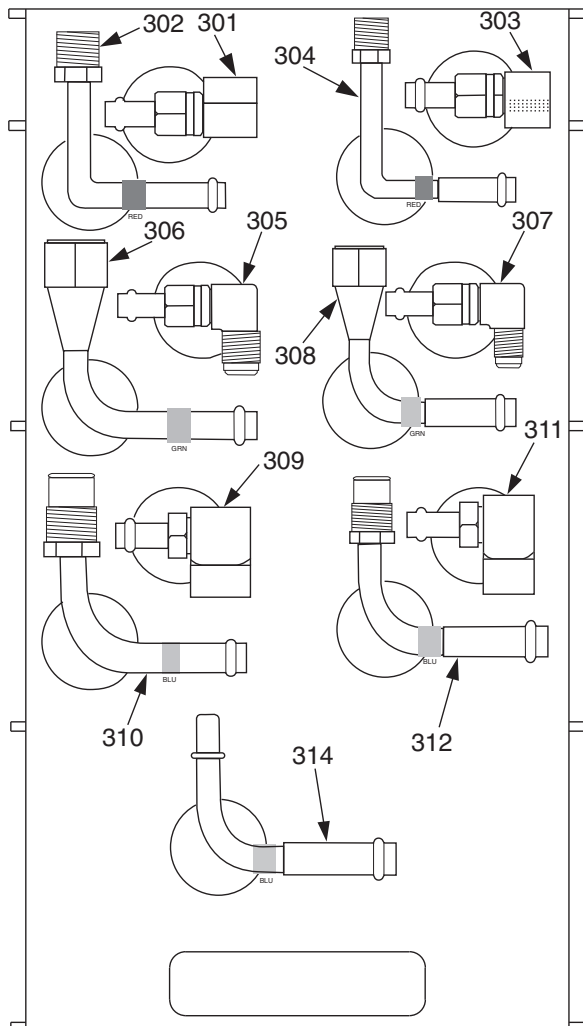
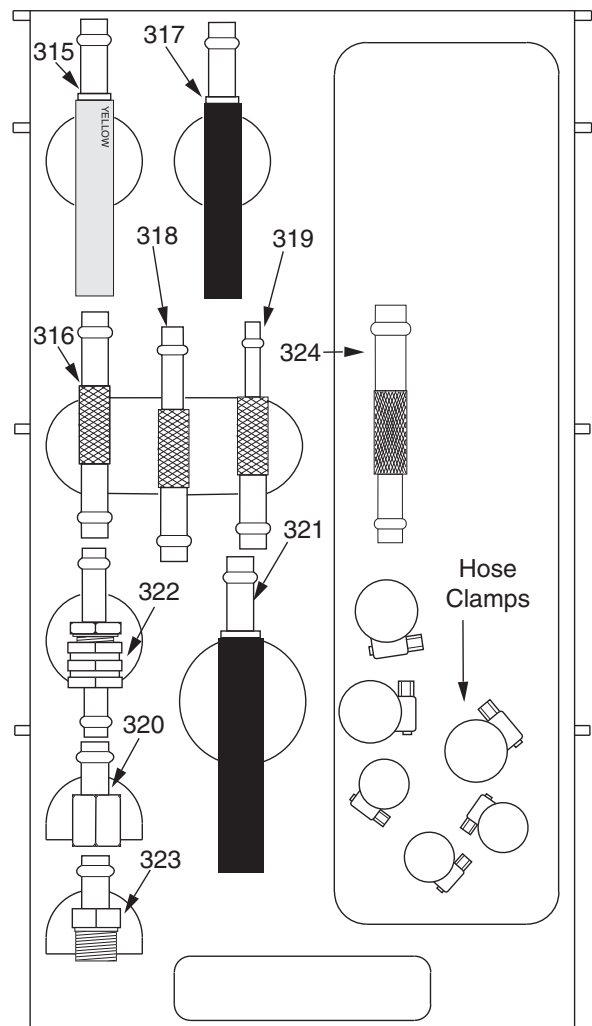

Figure 16. Standard Fittings Storage Tray (3)
Figure 17. Standard Fittings Storage Tray (4)
The storage trays in the **T-TECH** cabinet are defined in Figure 15. Figure 16 and Figure 17 show the tray layout for storage of the standard fittings in trays 3 and 4 respectively. The numbers shown in the illustration are the specific fitting number for the standard fittings and will be referred to throughout this manual.
*Note: The numbers in Figures 16 and 17 correspond to standard fittings FIT301-FIT324. (There is no fitting numbered FIT313.)*